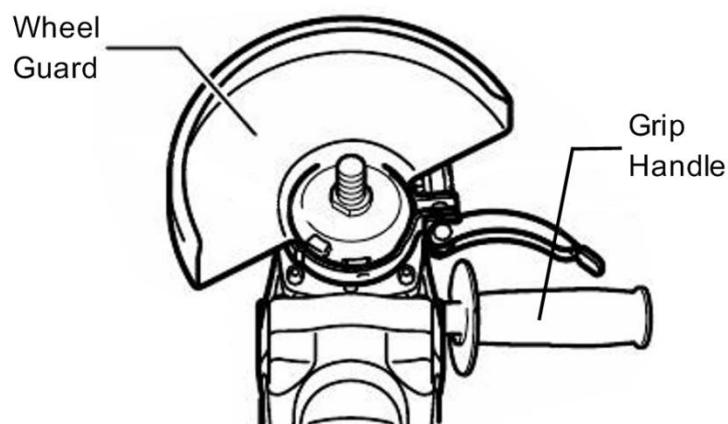

FIGURE 1 - Prepare Grinder
2. If installed, remove the wheel guard from grinder (see Figure 1). The Guard will not be required for use with the Sink BULL™.
3. If installed, remove the grip handle from grinder (see Figure 1). Save the handle to reinstall on the Sink BULL™ in a later step.